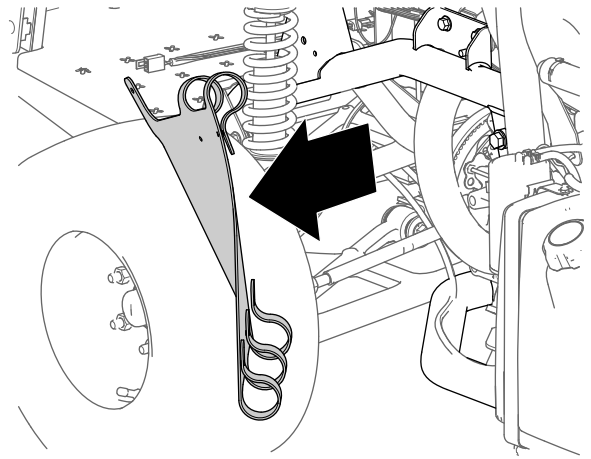

Figure 11
5. Remove the inner-fender shroud from the machine (Figure 11).